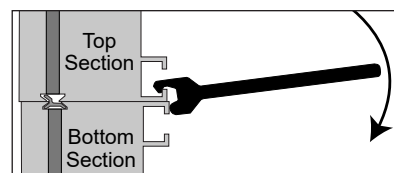

Figure 12: Aligning Sections with Splice Tool
5. Starting at one end of the display, insert the top lip of the splice wrench into the top section mounting channel. Refer to **Figure 12**.